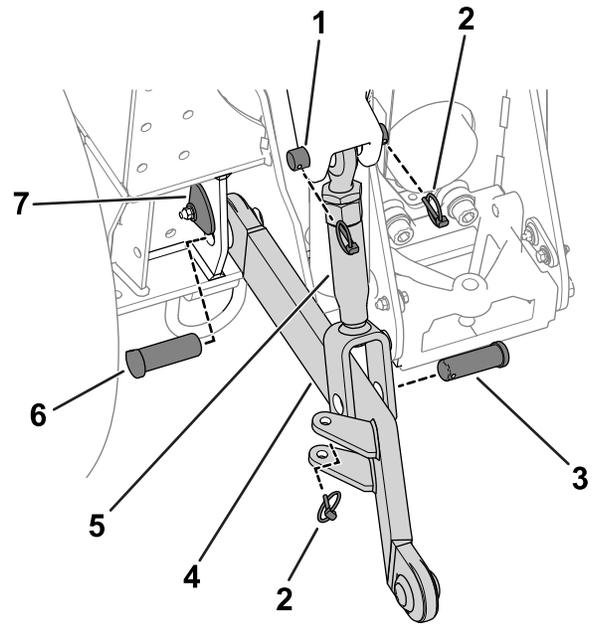
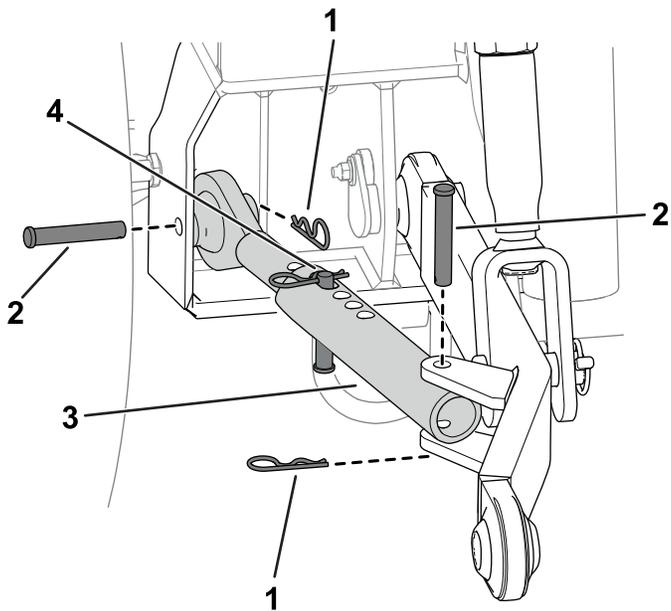

Figure 3
Figure 4
- A. Raise the pin plate (Figure 3), exposing the pin.
- B. Remove the lower pin (Figure 3).
- C. Position the draft link as shown in Figure 3.
- D. Insert the lower pin through the frame and draft-link joint (Figure 3).
3. Use a clevis pin and a lynch pin to secure the lift link to the draft link (Figure 3).
4. Use a clevis pin and a hairpin cotter to secure the sway links to the machine frame (Figure 4).
Note: Figure 3 and Figure 4 show link installation on the left side of the machine. Repeat this procedure for the right side of the machine.
1. Use a lift-link pin and 2 lynch pins to secure the lift link to the machine lift arms (Figure 3).
5. Use a clevis pin and a hairpin cotter to secure the sway link to the draft link (Figure 4).
6. Install a clevis pin and hairpin cotter to the sway link (Figure 4).